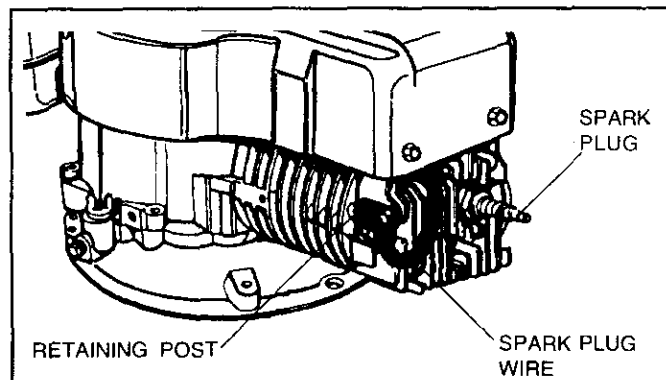

Figure 6
① **READ ALL INSTRUCTIONS PROVIDED WITH THE EQUIPMENT ON WHICH THIS ENGINE IS USED.**
**DISCONNECT SPARK PLUG WIRE FROM SPARK PLUG AND ATTACH IT TO RETAINING POST (see Figure 6 on Page 3).**
**⚠ A. DISCONNECT SPARK PLUG WIRE FROM SPARK PLUG AND ATTACH IT TO RETAINING POST (see Figure 6).**